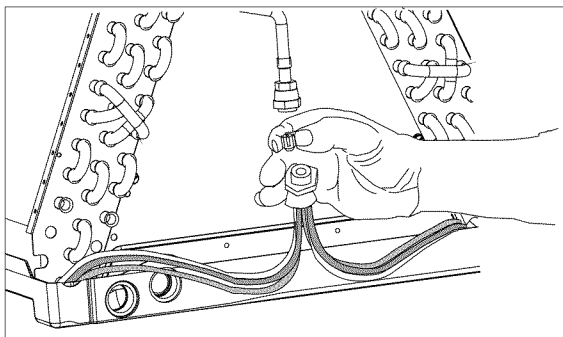

Figure 8. Orifice Insertion in Distributor Body
6. Insert the new orifice in the distributor body as shown in Figure 8.